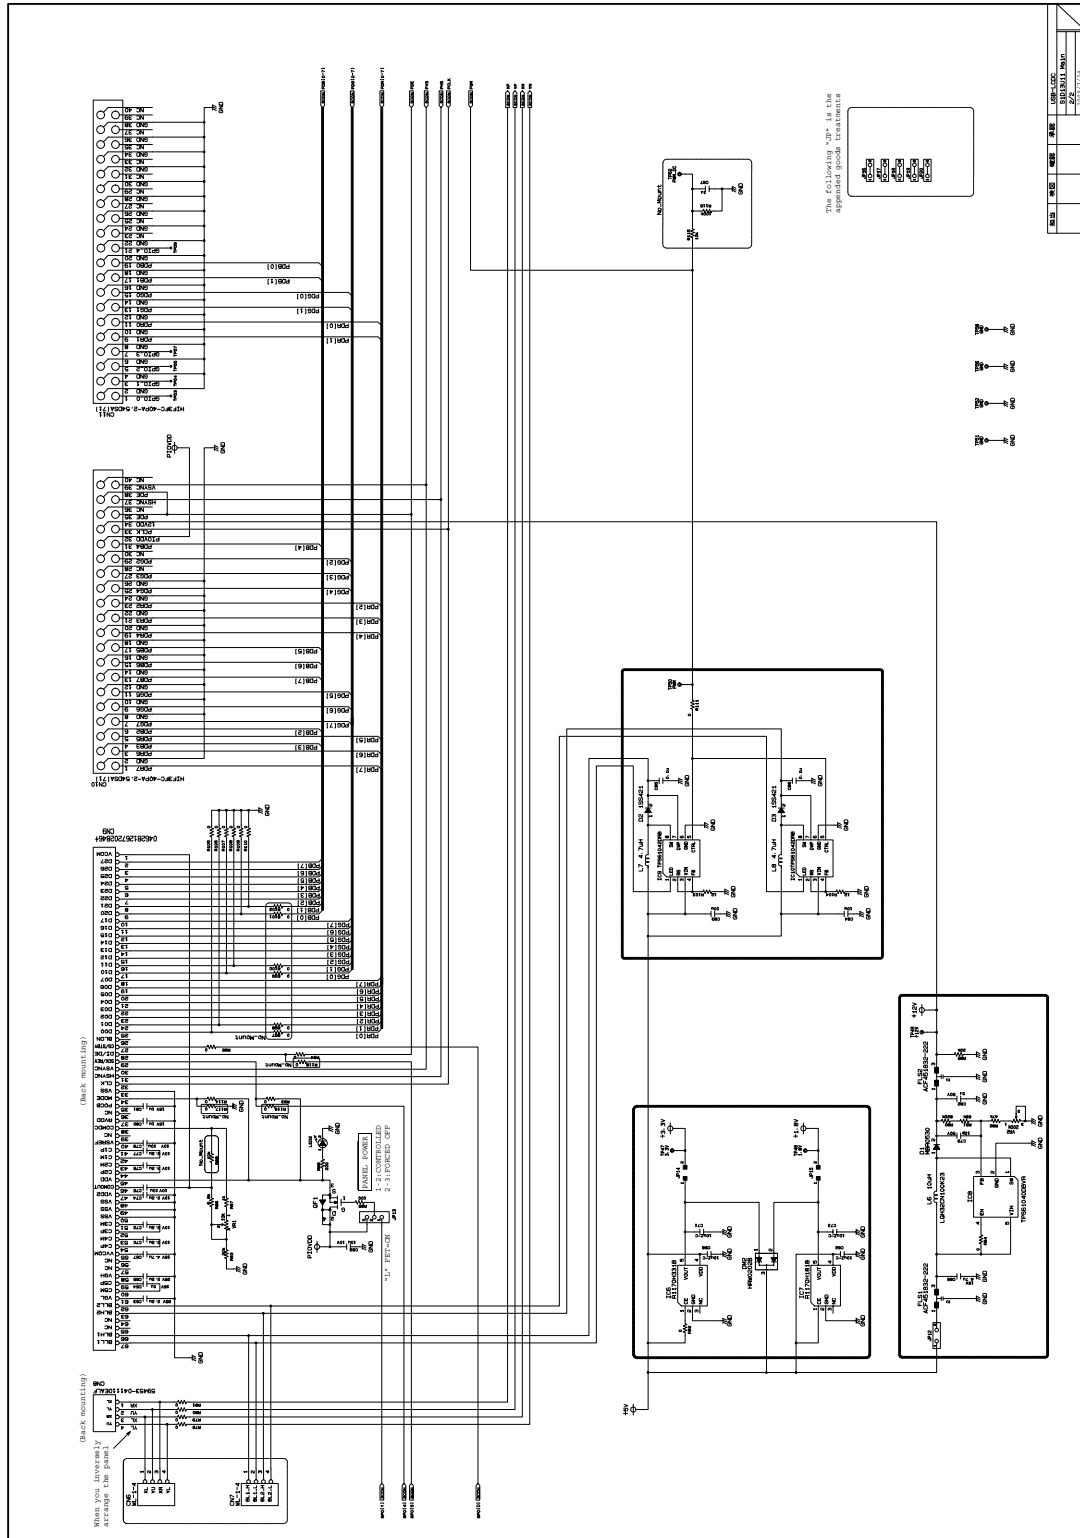

Figure 6-4: S5U13U11P10C100 Schematic Diagram (2 of 2)
- delete text “P-ch FET 2SJ612” in Figure 6-4: S5U13U11P10C100 Schematic Diagram (2 of 2)